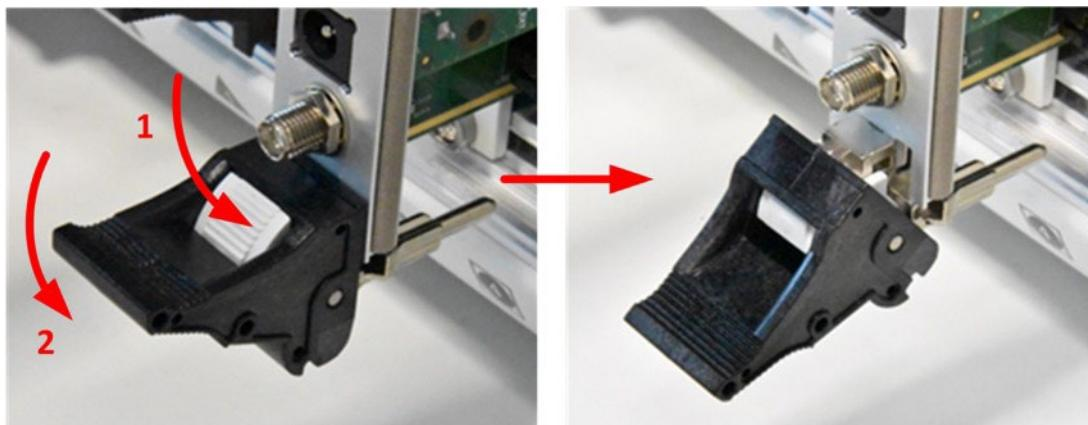

Figure 19: Push the ejector latch down prior to inserting the module
- Push the ejector handle down (Figure 19) by pressing the grey button (step 1) on the handle and subsequently pushing the black handle (step 2) down.